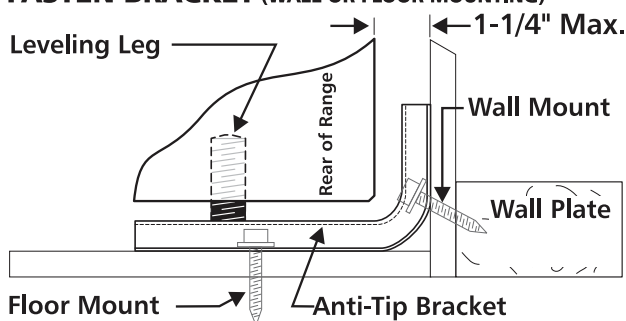
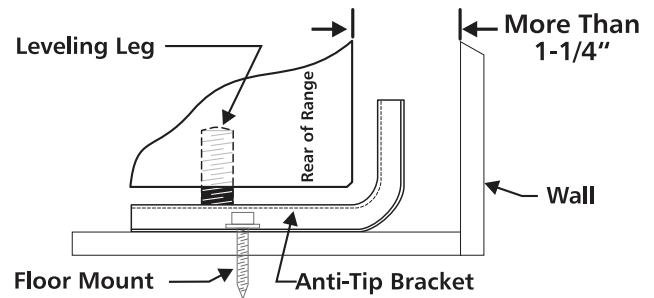

Fig. 4
Fig. 5
- Locate the bracket using the template** - (Bracket may be positioned on either the left or right side of the range. Refer to Figs. 4, 5, & 7 to position the bracket if template is not available).
For wall mount (Fig. 4), locate the bracket by placing the back edge of the template against rear wall and the side edge of template on the mark made referencing the side of the range. Place bracket on top of template and mark location of the screw holes in wall. If rear of range is further than 1-1/4" from wall when installed, attach bracket to the floor (See Fig. 5).